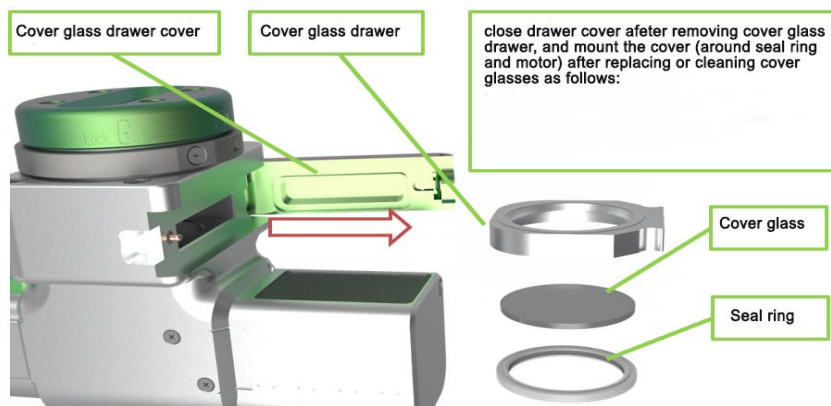

Figure 3.10
1. Loose the buckle to open the cover glass drawer cover, pull out the drawer and place the cover back to avoid dust in, as shown in figure 3.10.
2. Remove the seal ring and cover glass for cleaning or replacement, as shown in Figure 3.10.